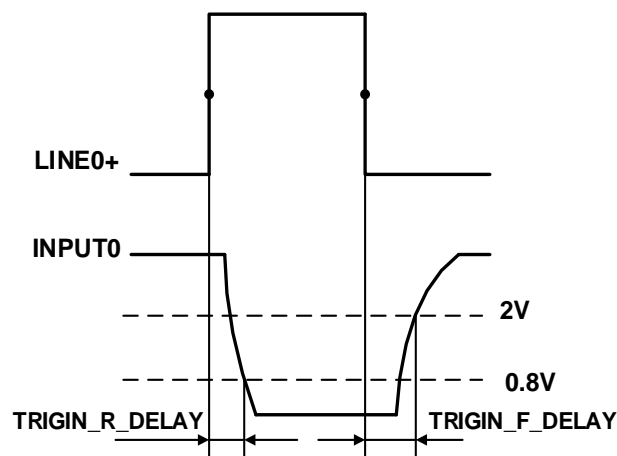

Figure 7-4 Parameter of opto-isolated input circuit
- Rising edge delay: $<50\mu s$ ($0^{\circ}C \sim 45^{\circ}C$), parameter description as shown in Figure 7-4
- Falling edge delay: $<50\mu s$ ($0^{\circ}C \sim 45^{\circ}C$), parameter description as shown in Figure 7-4
- Input rising time delay: <2μs (0°C~45°C), parameter description as shown in Figure 7-4
- Input falling time delay: <2μs (0°C~45°C), parameter description as shown in Figure 7-4